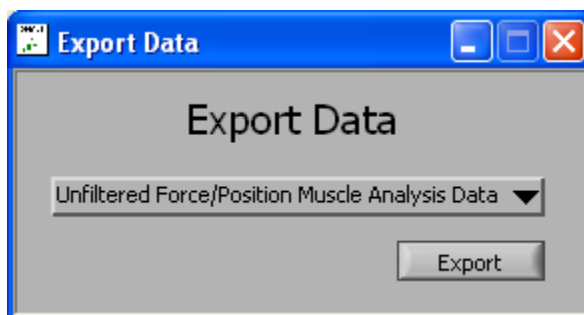

Figure 3: Export Data Window
- 14) Click the Export Data button on the Main Window to open the Export Data window, see Figure 3.